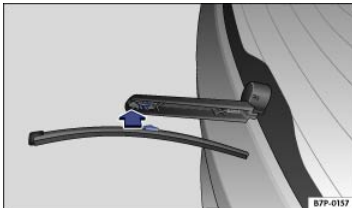

Fig. 193 Changing the rear window wiper blades.
- Install a new wiper blade of **same length and type** onto the wiper arm by pushing in the opposite direction of the arrow ⇒ Fig. 193 until it latches.